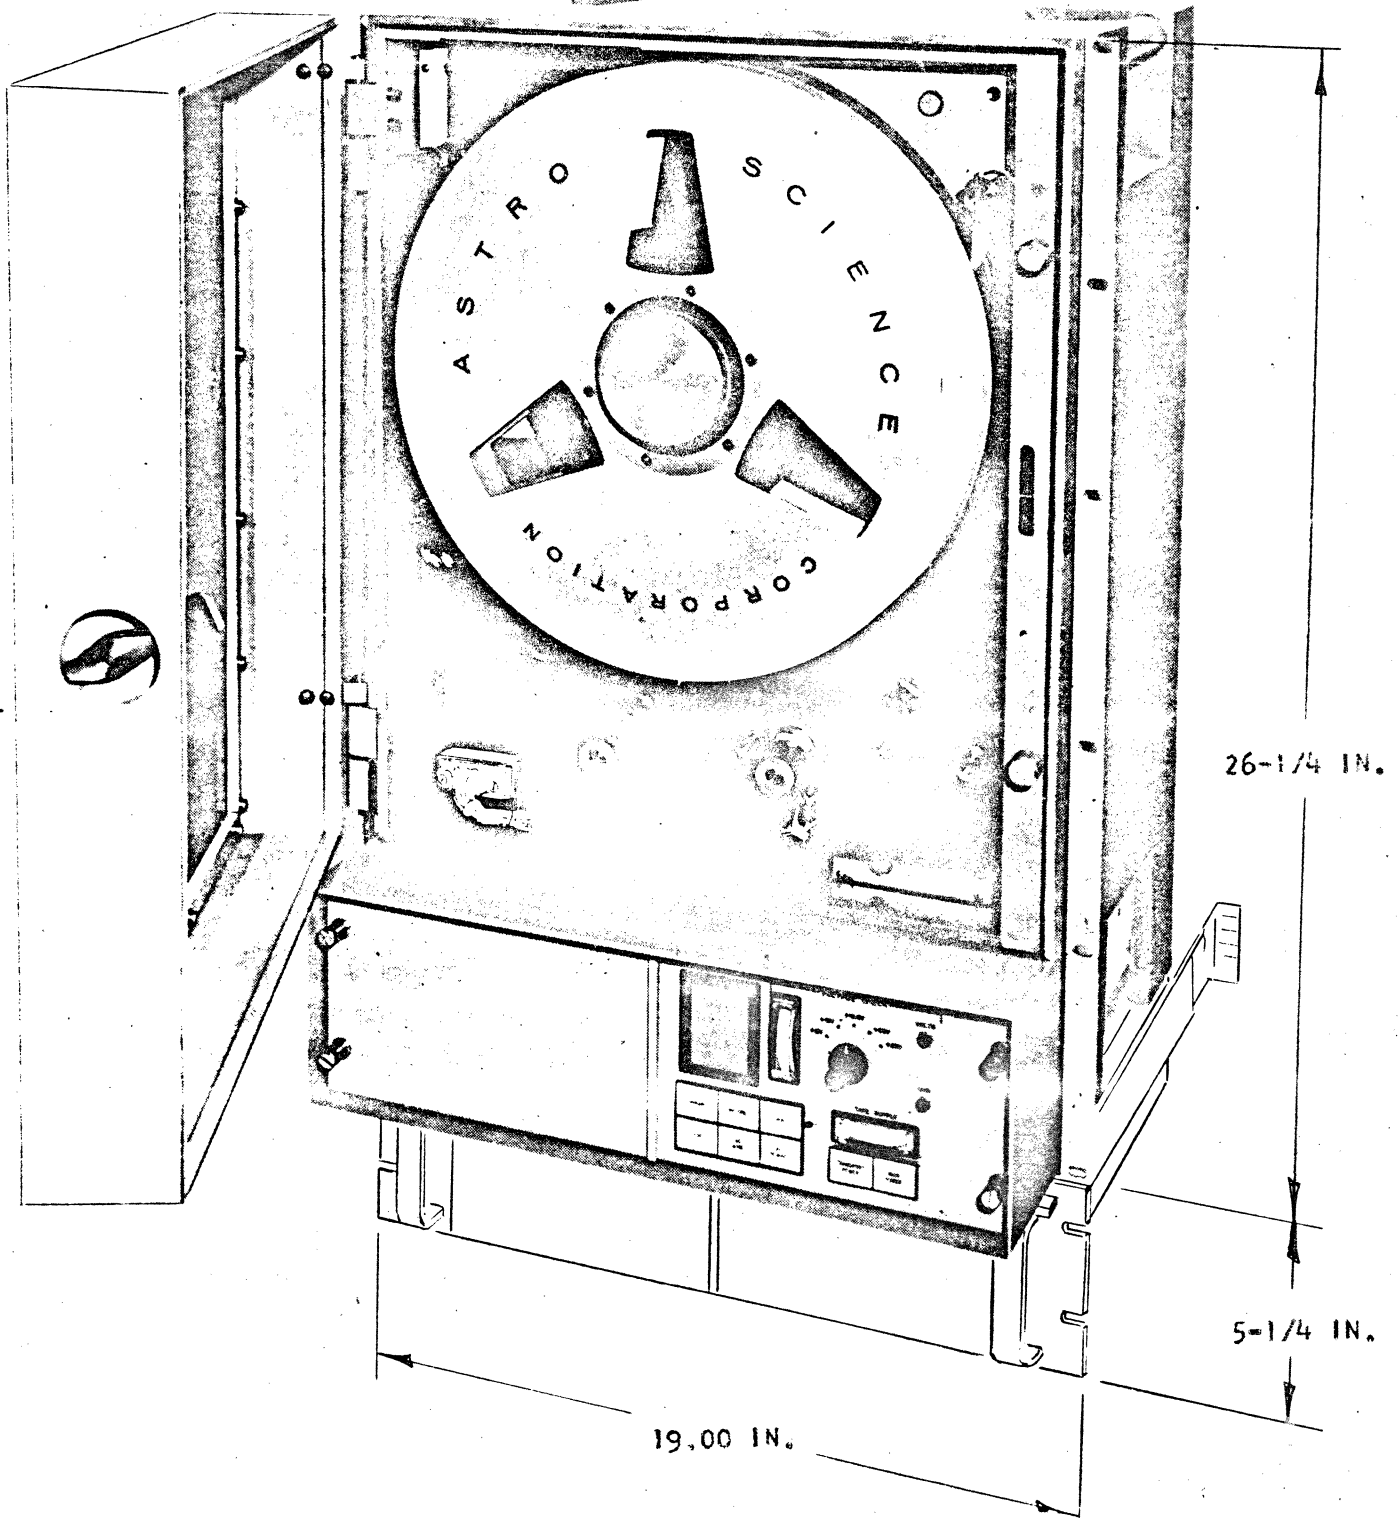
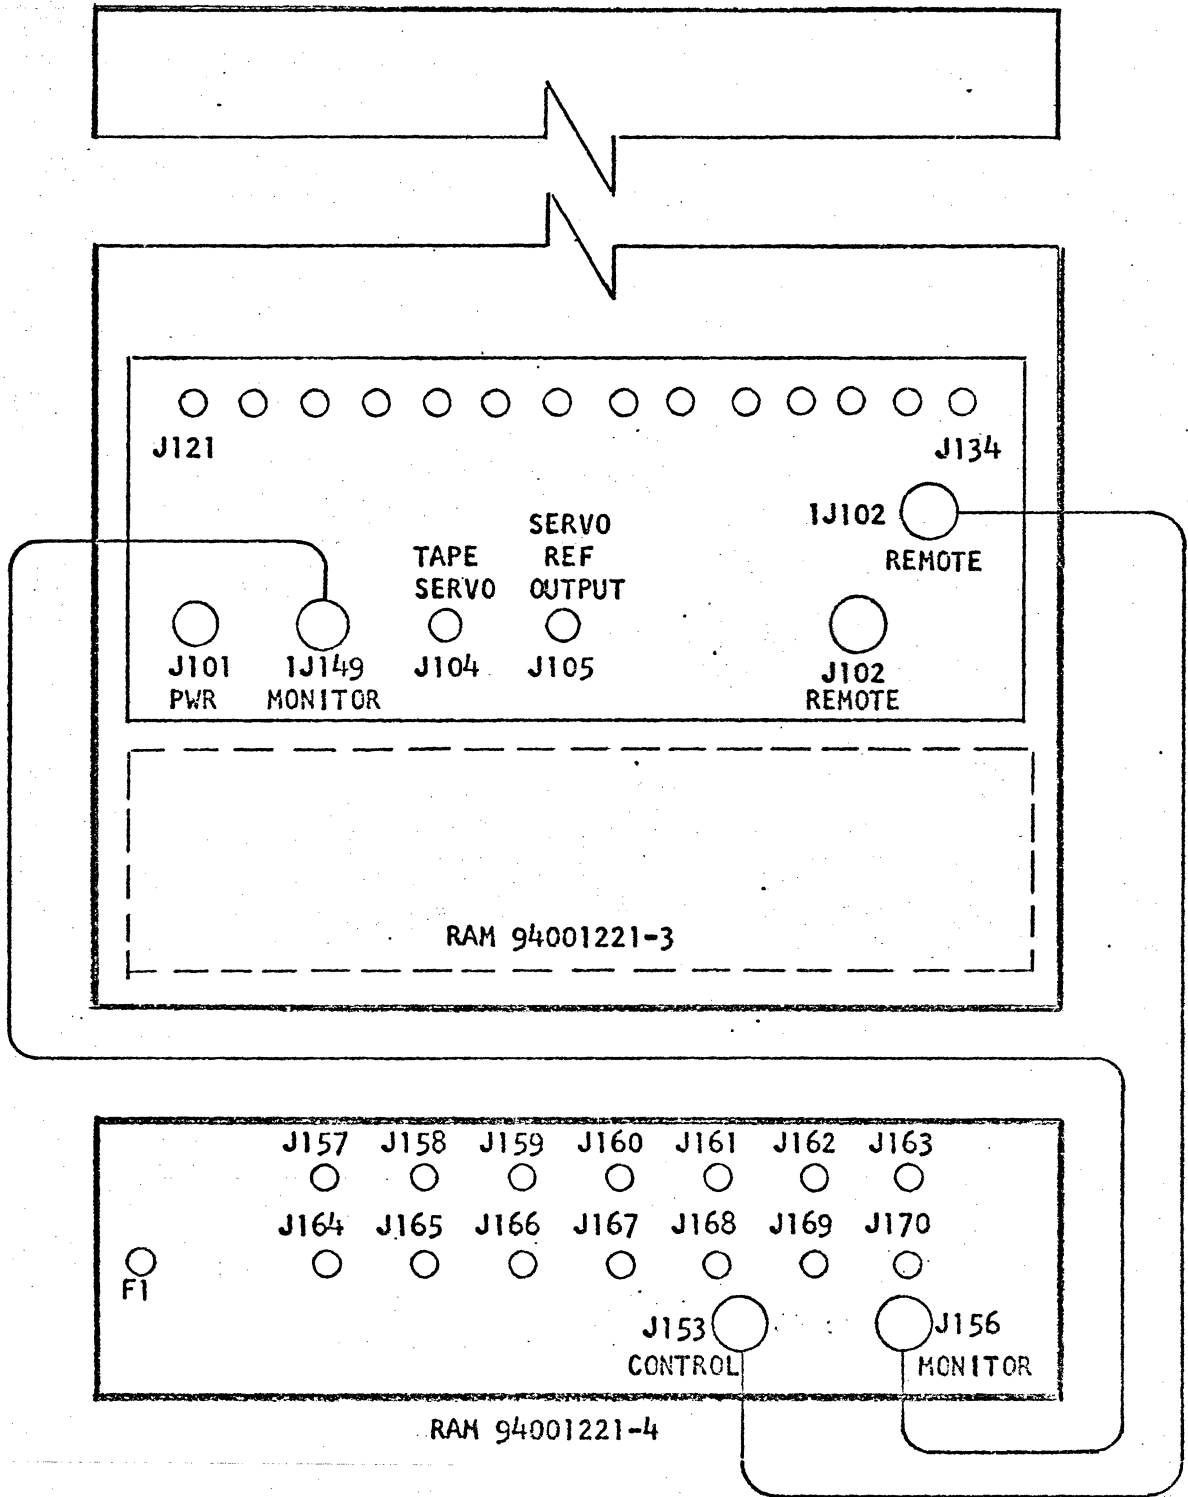

Figure A2-1
Figure A2-2
**A2.2.1 Installation.** The slide-mounted M14-G 28-Track Reproduce Amplifier Module (RAM) part number 94001221-4 is designed to be installed directly beneath the M14-G Reproducer in a rack-mounted position. The interconnect cables supplied with the RAM (-4) were designed for this rack-mounted configuration in a standard 19-inch electronic equipment rack. Outline dimensions and mounting information are shown in Figure A2-1. System interconnection cables should be installed as shown in Figure A2-2. When mounting the unit, ensure that adequate space is provided for access to the connectors at the rear of the unit.
**A2.2.2 Electrical Connections.** Connector type and location are given in Figure A2-2. Connector pin assignments are given in Tables A2-1 through A2-5. Functional characteristics of the 28-track M-14G Reproduce System are listed in Table A2-6.